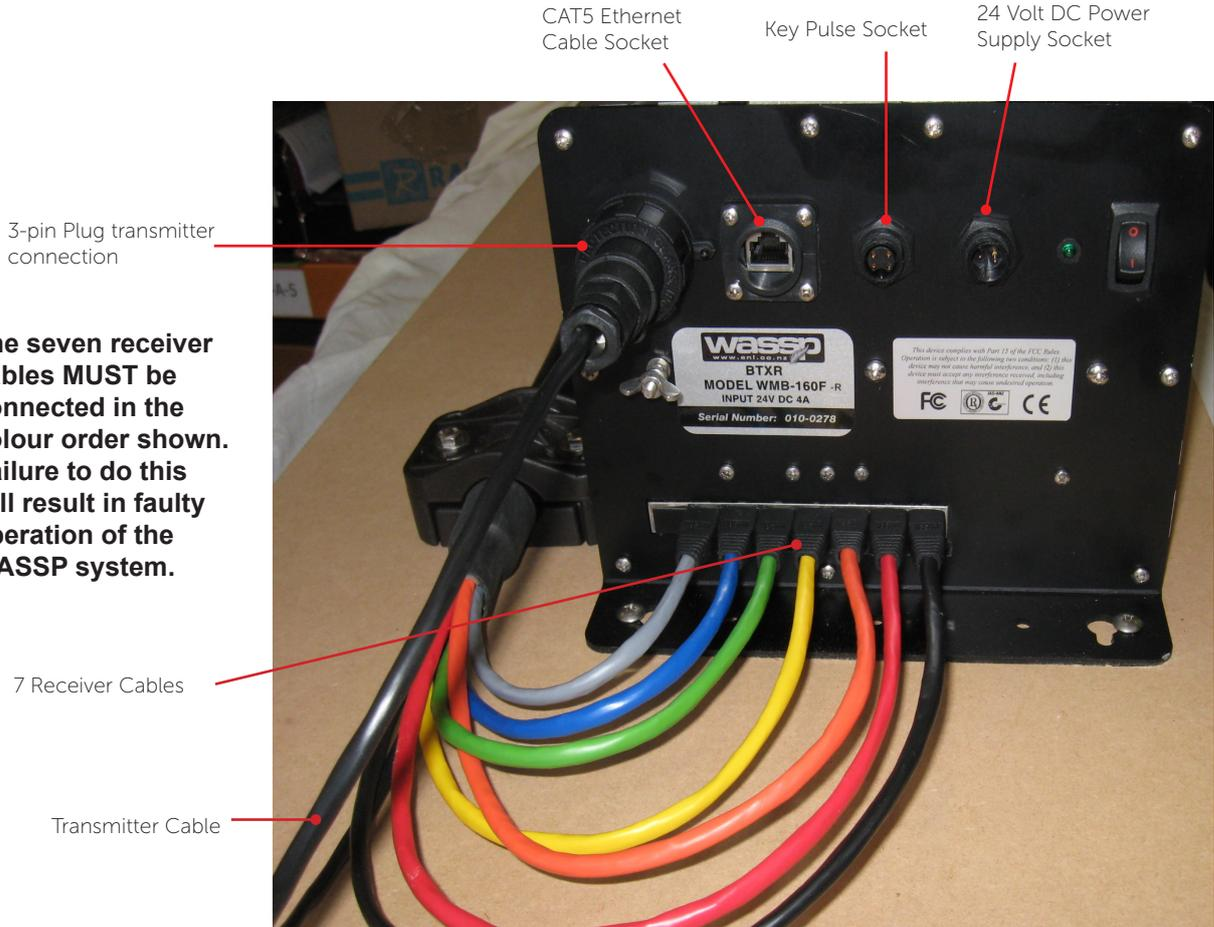

Figure 15. Transducer to BTxR Cable Connections
- ▶ Transmitter cable and Receiver cables from the Transducer to BTxR. See Figure 15 and Figure 16.